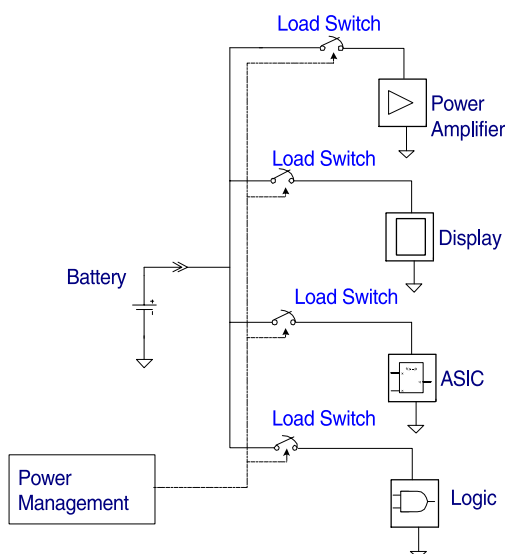
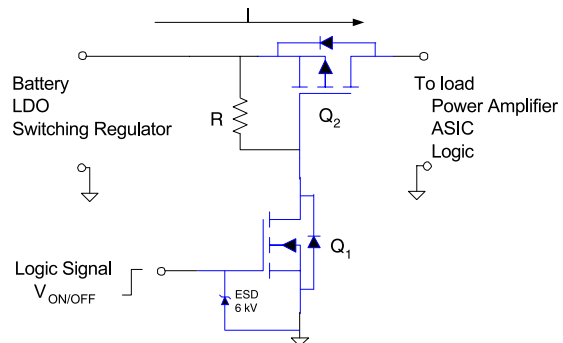

Figure 1. Typical Hand-Held Power Architecture
Figure 2. Load Switch Schematic
A generic power architecture of a mobile phone is shown in Figure 1. Load switches are placed in series with the Battery and the load, and are switched on or off by the power monitoring logic. A schematic of a Load Switch is shown in Figure 2. A P-Channel MOSFET is the power switch with its gate controlled by a Fairchild N-Channel Digital MOSFET. Logic "High" turns on the PMOS by having its gate pulled to ground by the Digital MOSFET. Logic "Low" turns off the PMOS by turning off the Digital MOSFET, and allowing the PMOS Gate to be passively pulled up to the Source potential through the external resistor.
- Thermal Test Board with 16 layouts defined by the size of the copper mounting pad and their relative surface placement. For layouts with copper on the top and bottom planes, there are 0.02 inch copper plated vias (heat pipes) connecting the two planes. See figure 2 and table 1 on the thermal application note for board layout and description. The conductivity of the FR-4 PCB used is 0.29 W/m-C. The length is 5.00 inches \pm 0.005; width 4.50 inches \pm 0.005; and thickness 0.062 inches \pm 0.005. 2Oz copper clad PCB.